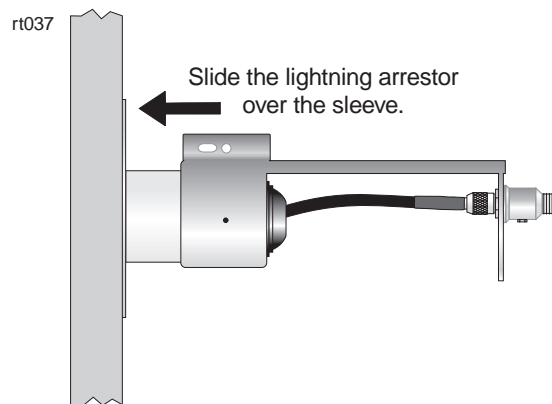

Figure 4-9 Attaching the lightning arrester to the sleeve
1. Slide the lightning arrester over the sleeve, as shown in figure 4-9.